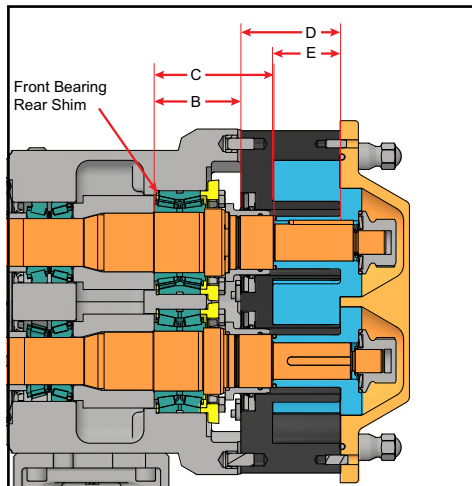

Figure 55 - Measure B, C, D and E
- If it is necessary to calculate the required shims for replacement shafts, bearings or both, refer to Figure 55; carry measurements and calculations to three decimal places (e.g., .059).
- Measure “B” in the gear case and “C” on the shaft (Figure 55).
- Measure “D” and “E” on the body (Figure 55).
(Callouts for both Figure 55)